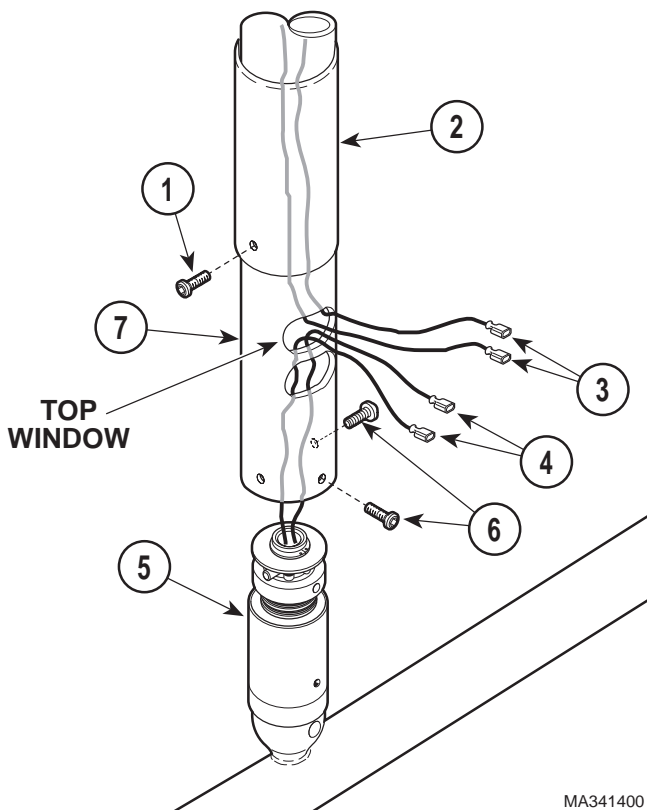

Figure 1. Cross Tube Removal
2. Remove screw (1, Figure 1) and slide pivot sleeve cover (2) up out of way.
3. Disconnect two wires (3) from two wires (4).
4. While supporting cross tube / lighthead (5), remove two screws (6) and separate cross tube / lighthead from down tube (7).